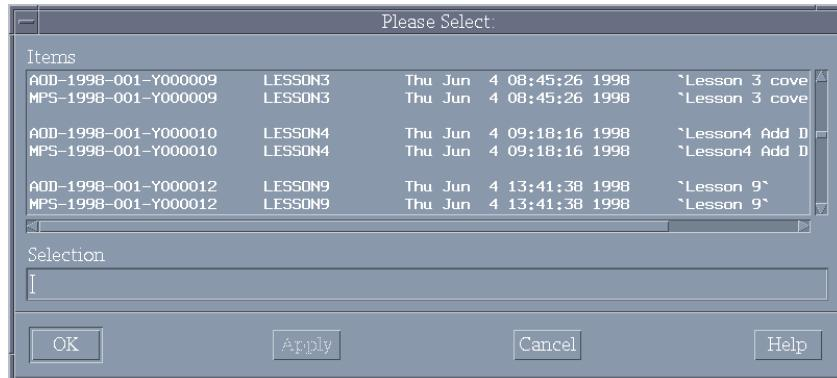

Fig. 16 – Sample list of final compositions
- From the main menu, click on *File*, then *Open Final Composition* to view the list of available final compositions (Fig. 16). This must be done even if the composition is still active in MMC (see note below).